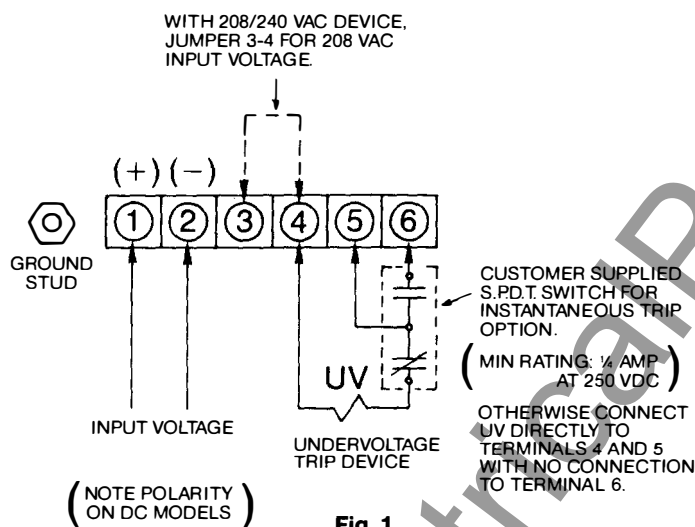

Fig. 1
The 240V ac static time delay device can be operated at 208V ac by connecting together terminals 3 and 4, Figure 1.
To provide this function (refer to figures 1 and 3), connect a single-pole double-throw switch with its common terminal connected to terminal 5, its normally open contact to terminal 6 and its normally closed contact to the UV device as shown in the schematic diagram (See dash lines).
3. Wire the device as shown in figure 1. Recommended fusing is 0.5A slo-blo. It is also recommended that the static time delay box be grounded. A 6-32 ground stud is provided adjacent to terminal 1.